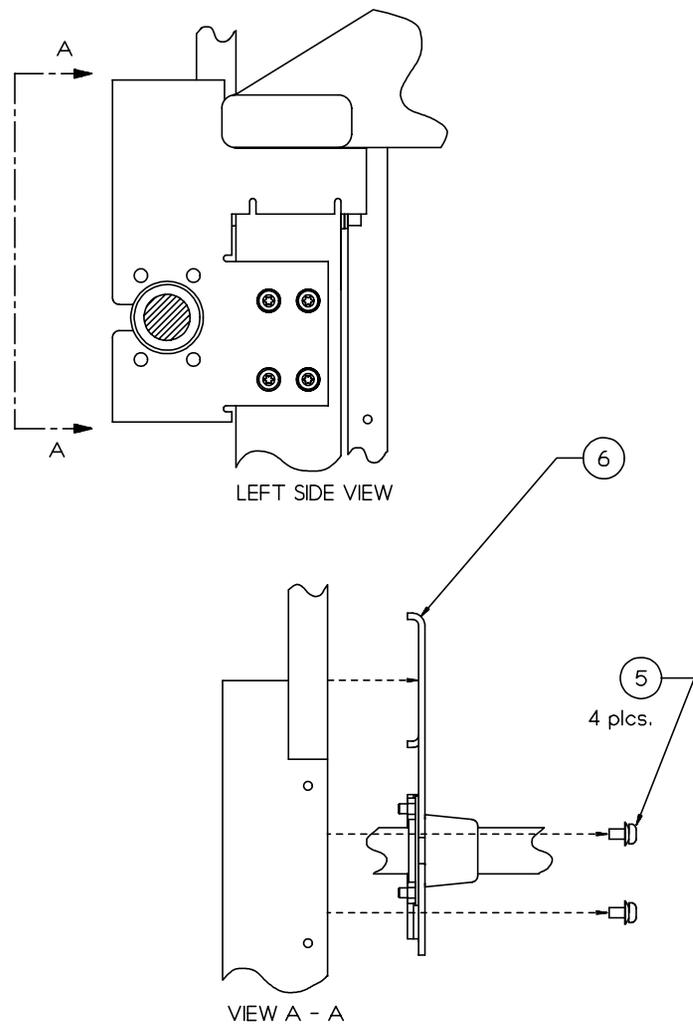

Figure 13
5. From the outside, remove the 4 torx screws that secure the Mtg. Bracket to the left side of the front-left support post. See Figure 13 (next page).
6. Remove the Mtg. Bracket, with the Arm Cable’s strain relief still attached. See Figure 13 (next page).
13. Remove the Interconnect Mtg. Bracket, with the Arm Cable's strain relief still attached, as shown in Figure 13 previously.